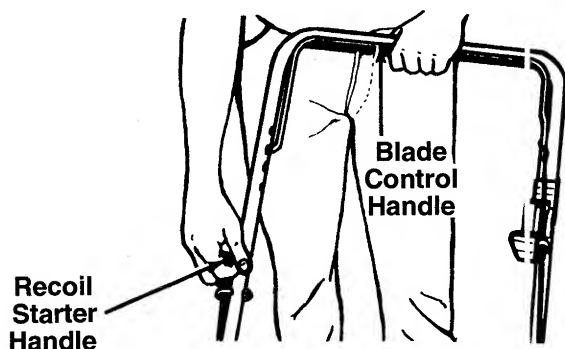

FIGURE 17.
4. Standing behind the unit, depress the blade control handle and hold it against the upper handle as shown. See figure 17.